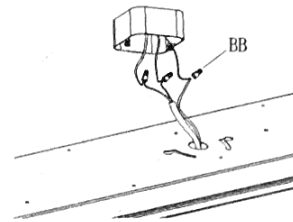

Figure 3
2. Connect the house ground wire to the yellow/green ground wire on the mounting plate (Part A) using the wire nut (BB).
3. Connect the house white wire to the mounting plate (Part A) white wire using the wire nut (BB).
4. Connect the house black wire to the mounting plate (Part A) black wire using the wire nut (BB).
NOTE: For proper connection, place the wire nuts (BB) over wires and twist clockwise until tight (Figure 3).